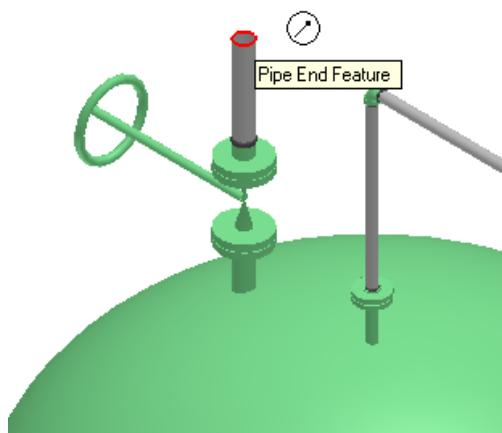

Figure 11.14: Pipe End Feature
15. After routing the pipe, you cover the top of the pipe with a flange by using the **Insert Component** command. Click the **Insert Component** button on the vertical toolbar and select the end feature of the pipe as shown in Figure 11.14.